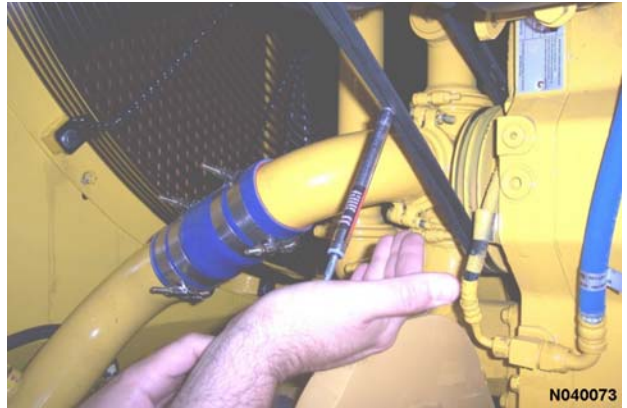

FIGURE 4-14. DEFLECTION MEASUREMENT
4. Find the approximate center of the belt between the two pulleys. Place the tip of the tool onto the outer face of the belt and apply pressure, as shown in Figure 4-14. The tool must be perpendicular to the belt. Push on the tool until the bottom edge of the deflection scale O-ring is even with the outer face of the adjacent drive belt. If only one belt is used, rest a straight edge across both pulleys to serve as the indicating plane.